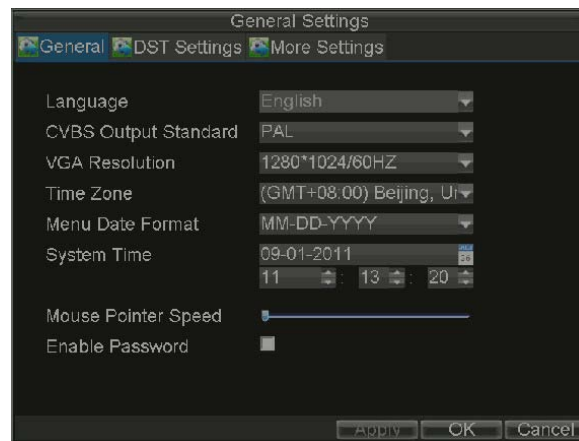

Figure 10. General Settings
3. Click the *General* icon. You will be taken to the **General Settings** window, as shown in Figure 10.